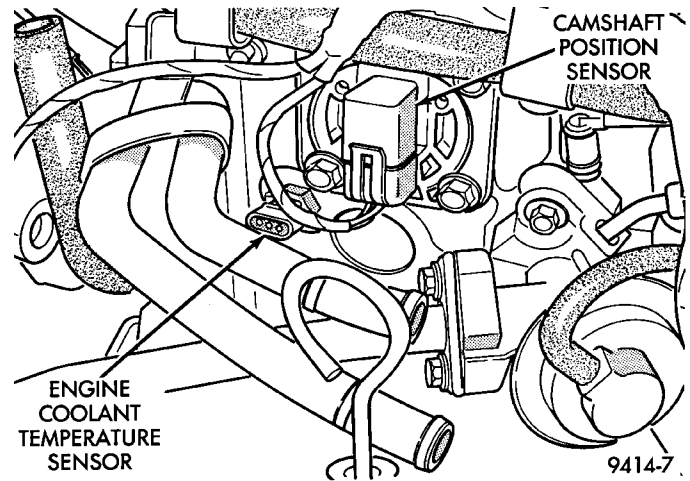

Fig. 15 Engine Coolant Temperature Sensor
- (1) Disconnect the coolant temperature sensor (Fig. 15).
- (2) Turn ignition switch ON. The temperature gauge should be at its lowest position. Turn ignition switch OFF.
- (3) Ground temperature gauge sending unit connector Pin 3. Refer to Group 8W, wiring Diagrams. Turn ignition switch ON. The temperature gauge should be at its highest position. After the seat belt lamp goes out, the cluster should chime for about eight seconds.